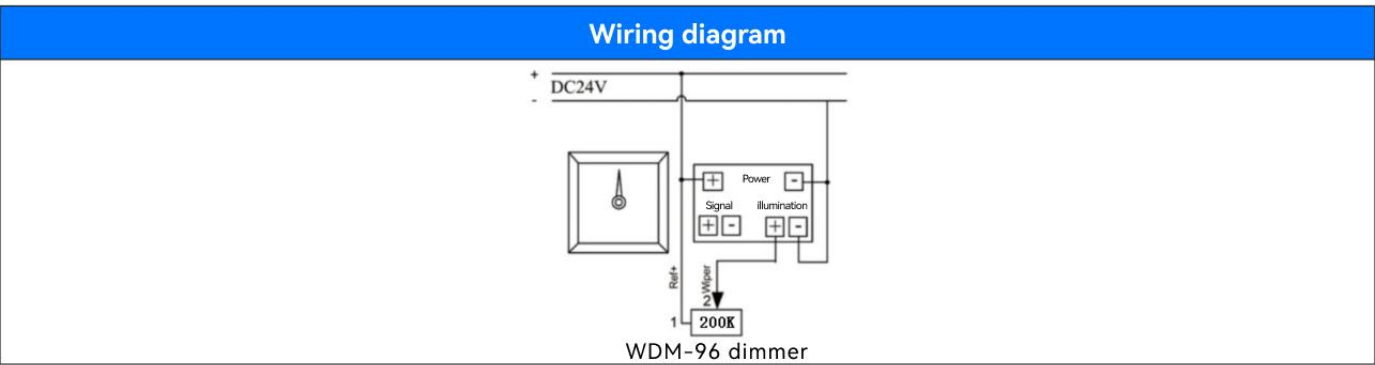

Figure 1.5
2. Connect cables to the WLF-70, such as azimuth control lever, as shown in Figure 1.5.